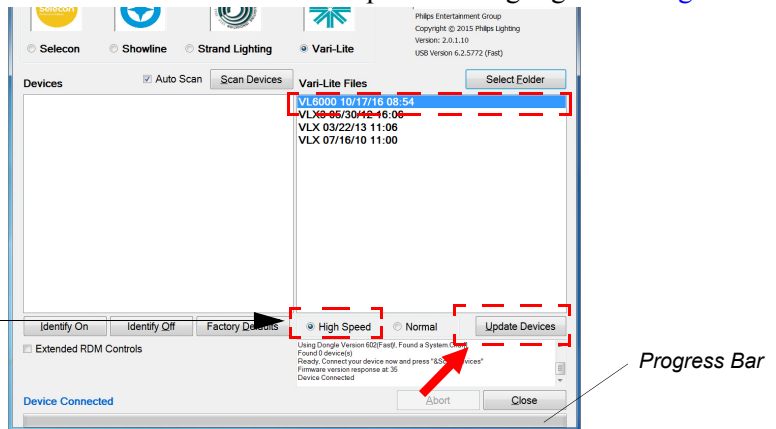

Figure 3-5: bin File Selection
Step 7. When the LED Driver Board requires updating, a new VL1100LED_XXXXXX_First.bin file will need to be updated first. Click on the bin file to be updated as highlighted in Figure 3-5.
Step 8. As indicated in Figure 3-5, click on Update Devices to start upload.
VL1100_XXXXXX_Second.bin file. Click on the bin file to be updated as highlighted in Figure 3-5.
- Step 10. As indicated in Figure 3-5, click on **Update Devices** to start upload.